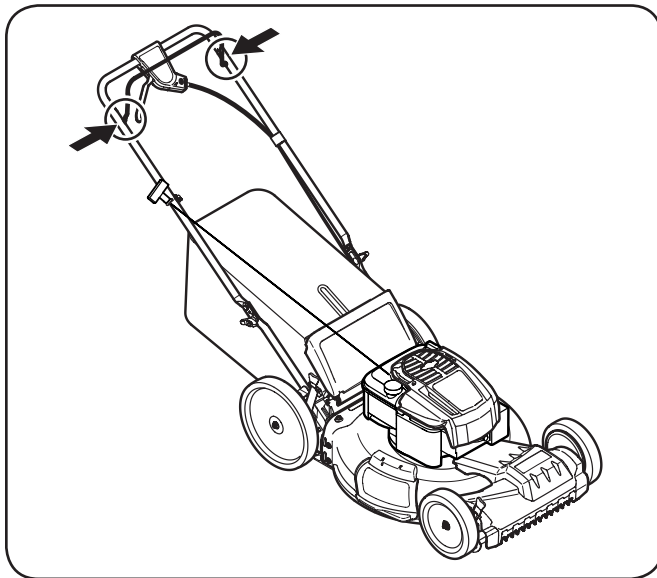

Figure 6-1
1. Lubricate pivot points on the blade control at least once a season with light oil. This control must operate freely in both directions. See Figure 6-1.